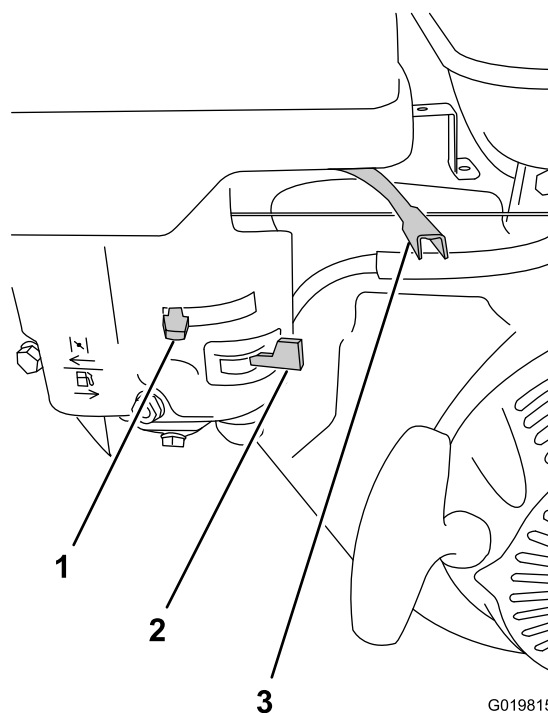

Figure 19
1. On the engine, move the throttle lever away from the Min position, 1/3 of the way toward the Max position (Figure 19); refer to Throttle Lever (page 10).
2. Move the lever of the fuel valve to the On position—all the way to the right (Figure 19); refer to Fuel Valve (page 9).
- To start a cold engine, move the choke lever to the Closed position—all the way to the left (Figure 19); refer to Choke Lever (page 10).
4. Rotate the engine switch to the On position (Figure 19); refer to Electric-start Switch (page 10).
1. Ensure that the choke lever is in the Off position (Figure 19); refer to Choke Lever (page 10).
2. Move the throttle lever to the Min position (Figure 19); refer to Throttle Lever (page 10).